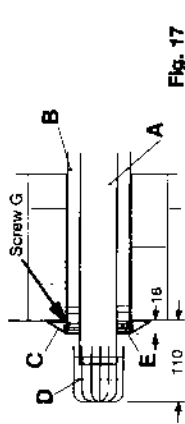

Fig. 17
Separate the two tubes by removing screw G (fig. 17).
Ensure inner and outer terminal tubes are firmly fitted together with screw G (fig. 17). Push the terminal tubes through the wall until the face of the outer tube protrudes 18mm from the face of the wall (fig. 17). The terminal grill (D) will then protrude 110mm from the wall face.
- 5.5.15 Check also that the outer end of the flue projects as indicated in fig. 17.
- 5.5.18 Seal the peripheral gap around the outer tube with cement or mastic and slip the cosmetic flexible plastic collar (fig. 17) item (C) into groove on the pipe. This operation can only be carried out with external access. Seal the internal wall face around the air duct.